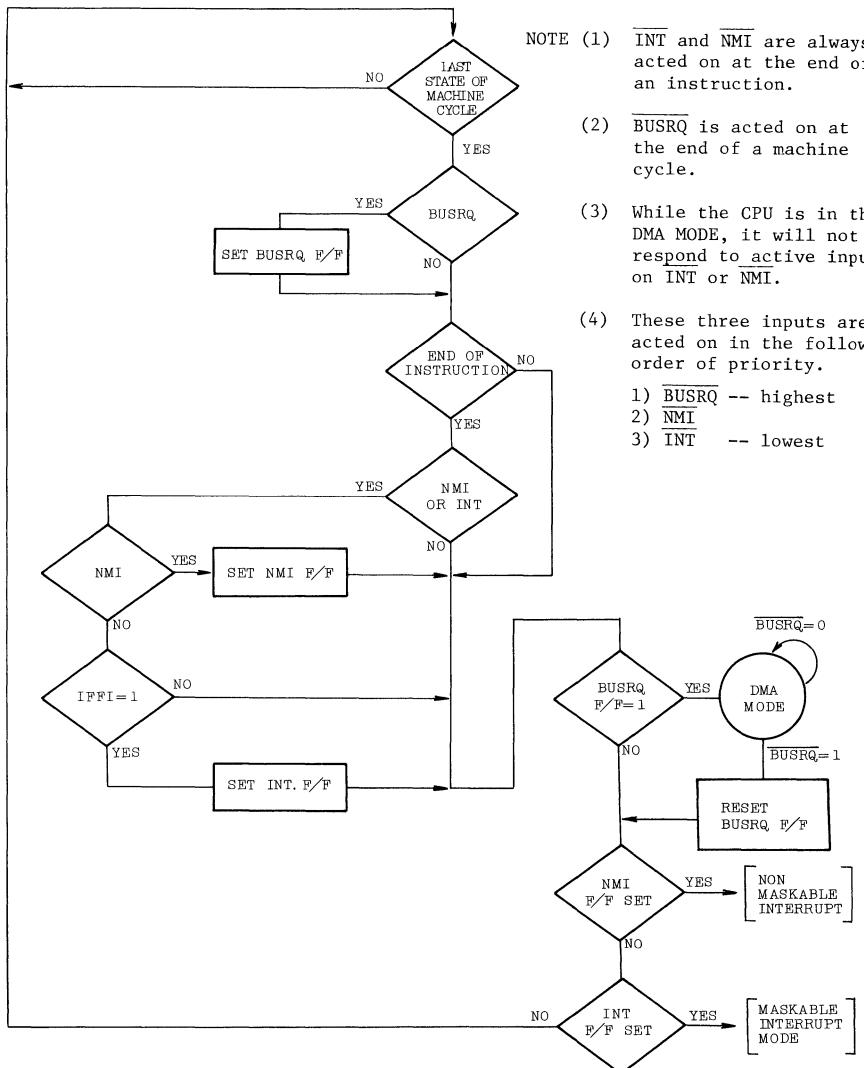

FIGURE 4. Z80 CPU INTERRUPT SEQUENCE
Both the INT and NMI inputs are sampled by the CPU on the rising edge of CLK in the last T state of the last Machine (M) cycle of any instruction. However, if BUSRQ is active at the same time, it will be processed before any interrupts. Figure 4 illustrates the Z80 interrupt service sequence.